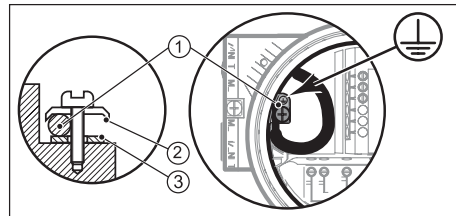

Fig. 4.2 Earth wire connection
- * If required, mount earth wire (1) between top (2) and stainless steel washer (3) of earth wire connection (see Figure 4.2).